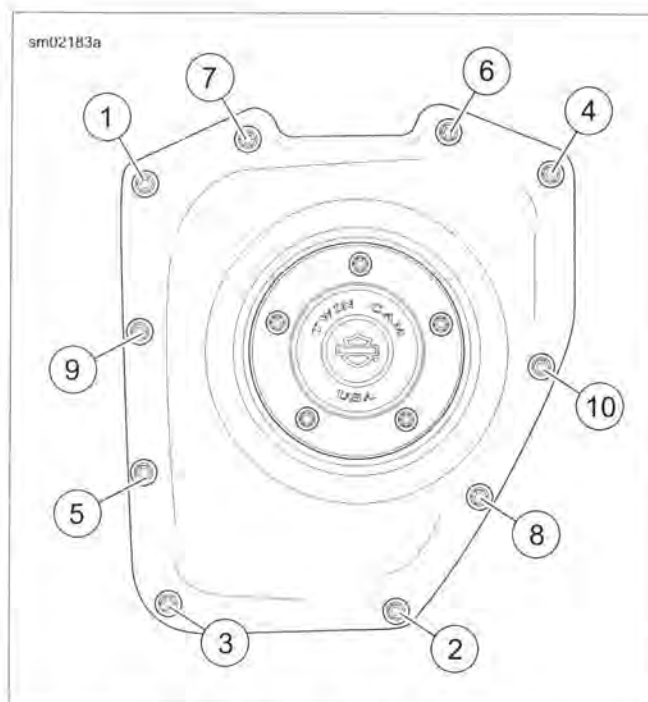

Figure 3-106. Cam Cover Screws
18. See Figure 3-106. Secure cover with socket head screws. Following the sequence shown, tighten to 125-155 **in-lbs** (14.1-17.5 Nm).